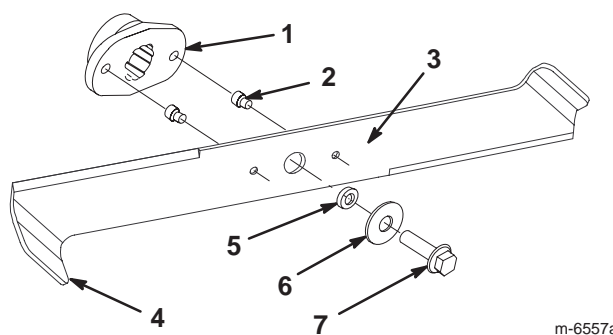

Figure 35
2. Inspect the cutting edges (Fig. 35). If the edges are not sharp or have nicks, remove the blades and sharpen them; refer to Sharpening the Blades on page 35.
3. Inspect the blades, especially the bent edges (Fig. 35). If you notice any wear or damage in this area, immediately install new blades.
4. If the shear pins are broken, replace them immediately (Fig. 35).
3. Remove the bolts, washers, and blades (Fig. 35). Wedge a block of wood between each blade and the mower to lock the blade when you are removing each bolt.
1. Install the blades, washers, and blade bolts (Fig. 35).